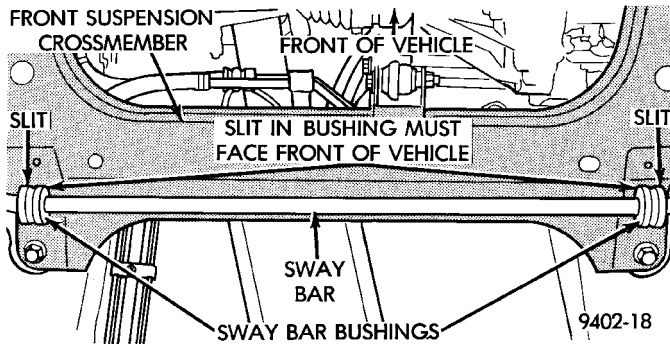

Fig. 42 Correct Stabilizer Bar To Crossmember Bushing Installation
(2) If stabilizer bar to front crossmember bushings require replacement at time of inspection, install new bushings before installing stabilizer bar. Bushings are replaced by opening slit on bushings and peeling them off stabilizer bar. Install new bushings on stabilizer bar, by spreading bushing at slit and forcing them on stabilizer bar. **Bushings must be installed on stabilizer bar with slit in bushing facing front of vehicle when stabilizer bar is installed (Fig. 42).**